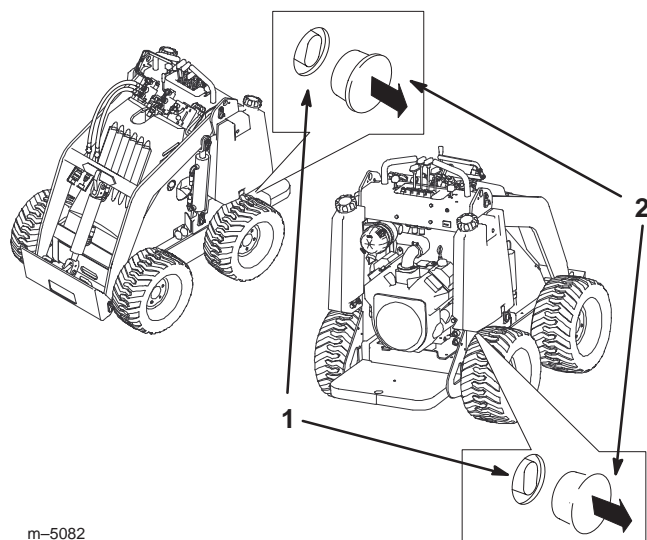

Figure 14
2. Remove the plug covering each tow valve (Fig. 14).
3. Loosen the jam nut on each tow valve (Fig. 14).